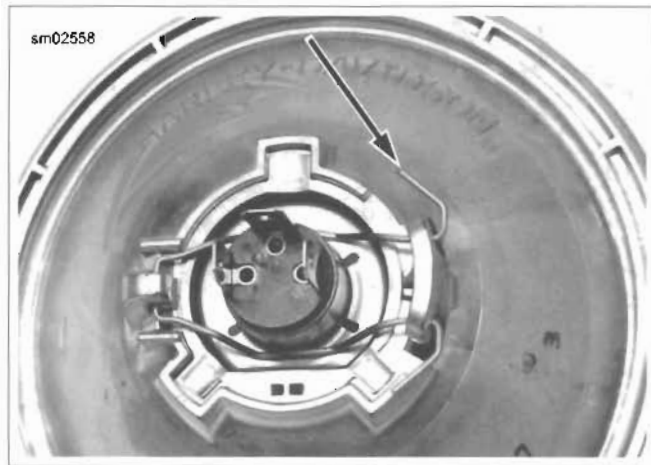
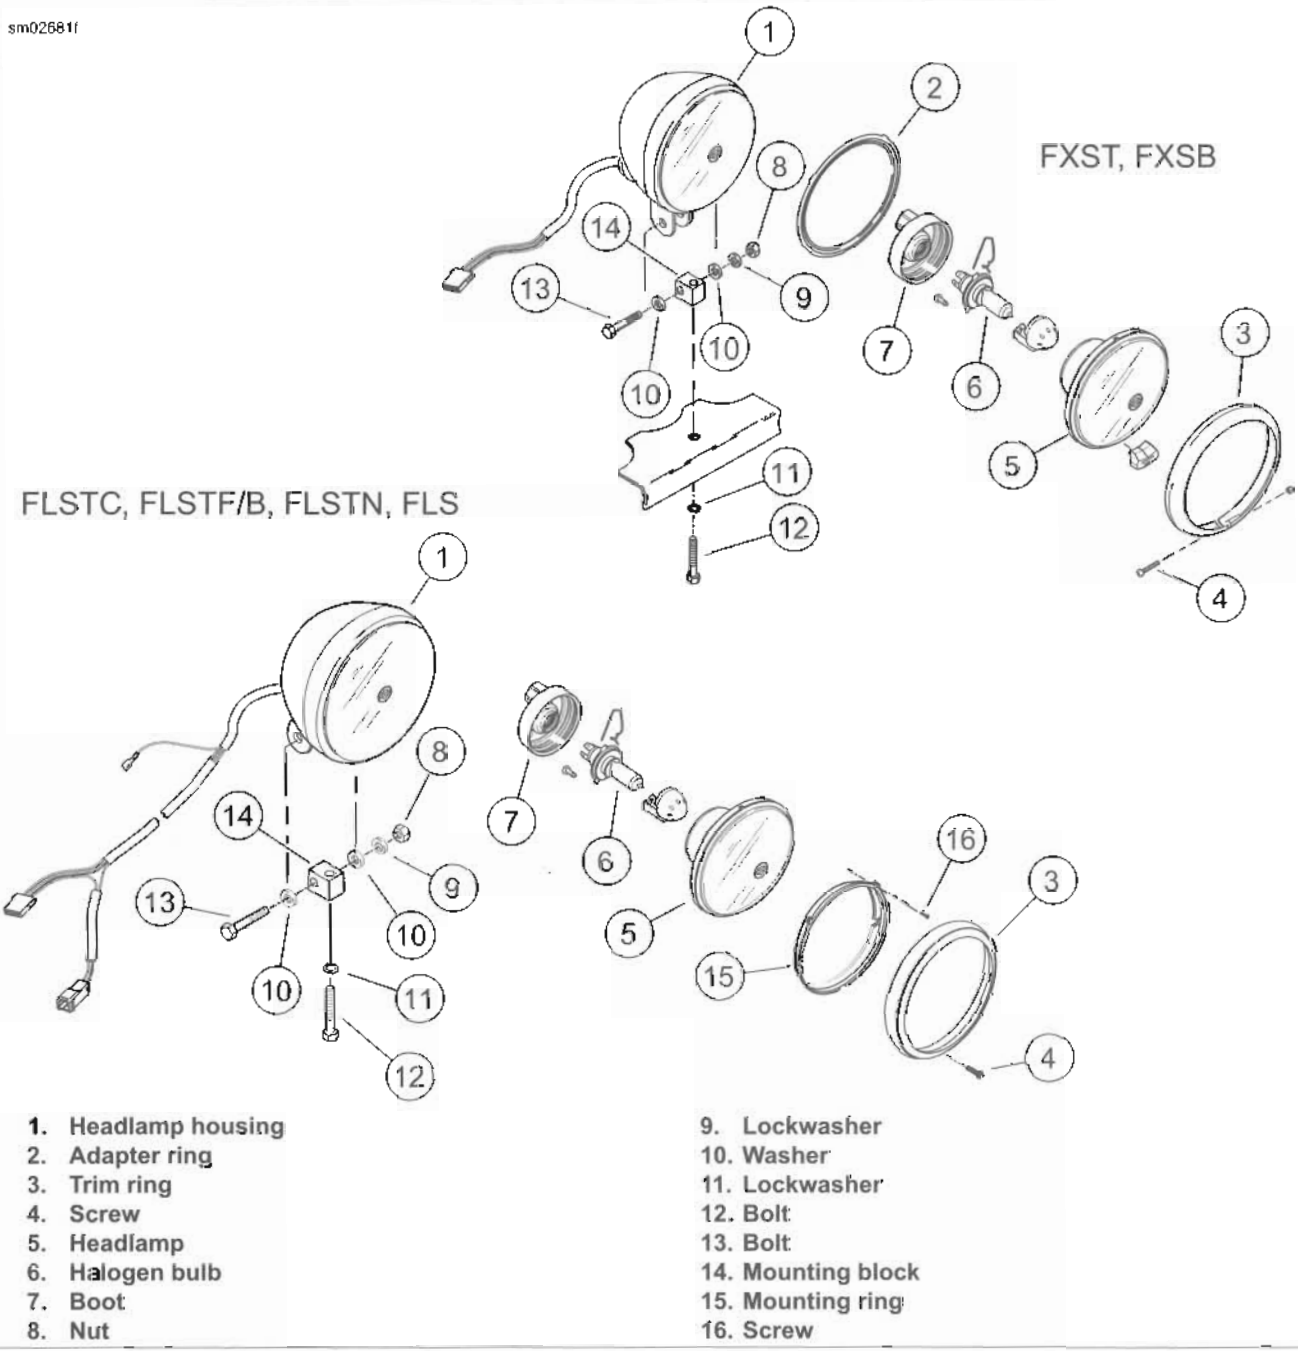

Figure 7-33. Wire Retaining Clip
Figure 7-34. Headlamps
1. See Figure 7-34. Loosen trim ring screw (4). Remove trim ring (3).
3. Remove rubber boot (7) from back of headlamp (5).
4. See Figure 7-33. Squeeze wire retaining clip ends to unhook them from notches in headlamp assembly.
1. See Figure 7-34. Remove trim ring screw (4) and trim ring (3). Be careful not to bend the two tabs that hold the top of the trim ring in place.
2. Remove mounting ring screws (16) and mounting ring that holds sealed beam headlamp in place.
4. Remove rubber boot (7) from back of headlamp (5).
5. See Figure 7-33. Squeeze wire retaining clip ends to unhook them from notches in headlamp assembly.